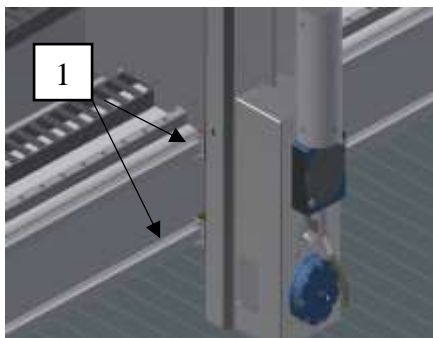

Fig.60: Grease nipple on Y-axis
2. Remove protective cap from the grease nipple of the Y-axis (Fig. 60/1), if present.